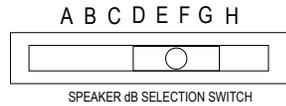

Figure 3: Speaker Setting Switch Shown on Factory Setting "F"
3. Using the slide switch shown in Figure 3, select voltage and wattage as shown in Table 4 below. Each letter corresponds to a position of the switch located on the printed circuit board. The ELSP comes pre-set on setting F (70V @ 1/2 W).